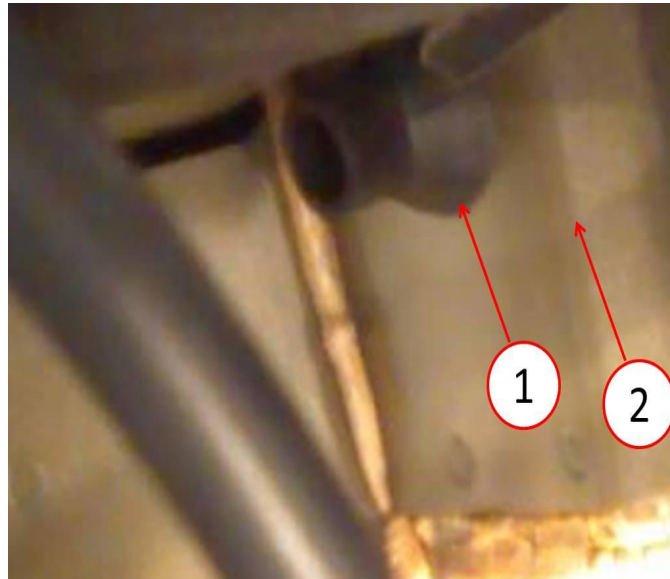

Fig. 8 Drain Tube Grommet Seated
4. Position a mirror behind the right strut tower and verify the grommet is properly seated against the bulkhead(Fig. 8).